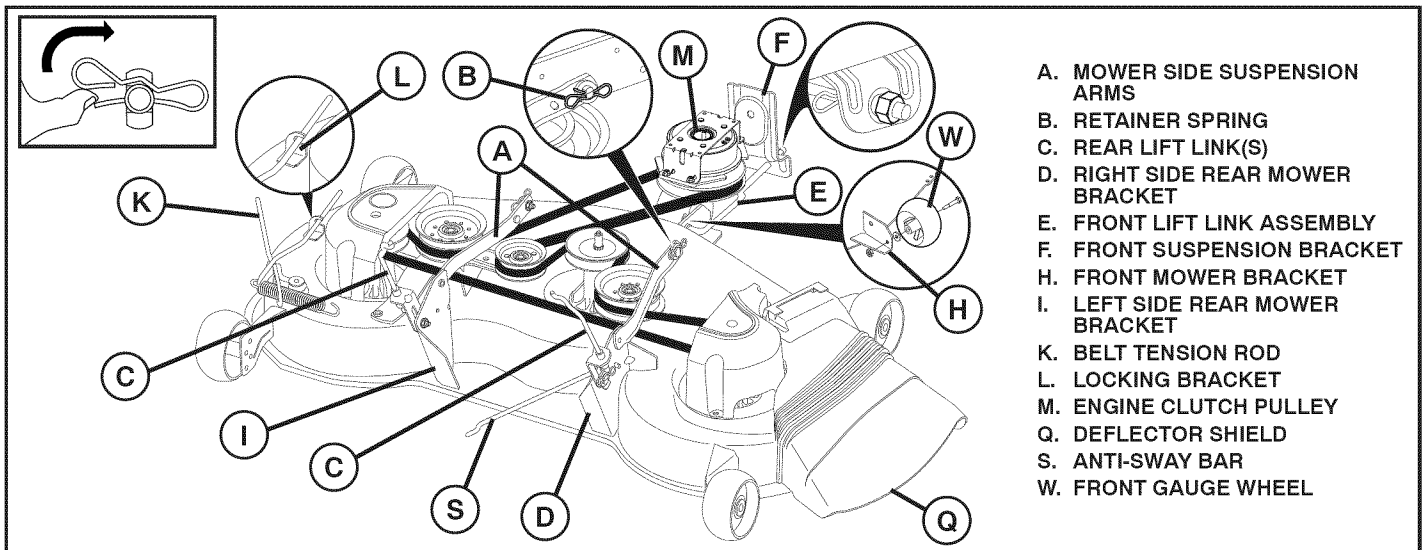

Fig. 20
TO REMOVE MOWER (See Fig. 20)
TO INSTALL MOWER (See Figs. 20 - 32)
9 INSTALL BELT ON ENGINE CLUTCH PULLEY (M) (See Fig. 20 & 32)
- Disengage belt tension rod (K) from locking bracket (L).
- Install belt onto engine clutch pulley (M).